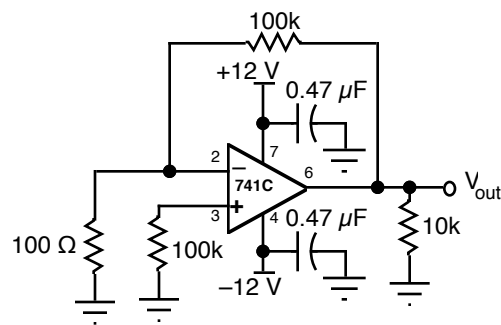

Fig. 6.4
b) *Output Offset Voltage*. Connect the circuit of Fig. 6.4 using a 741C op amp.